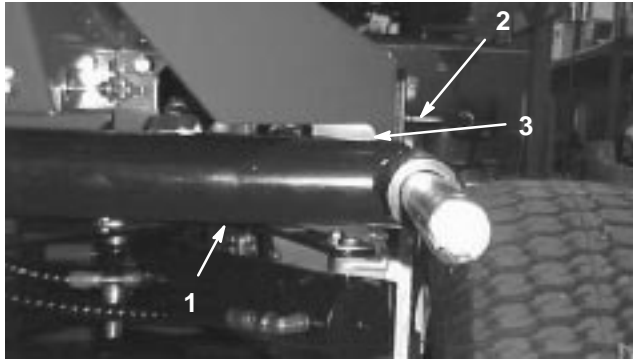
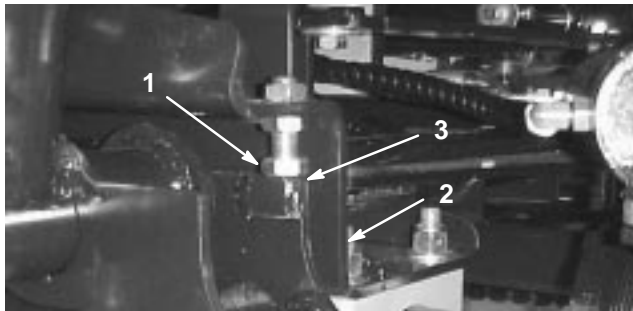
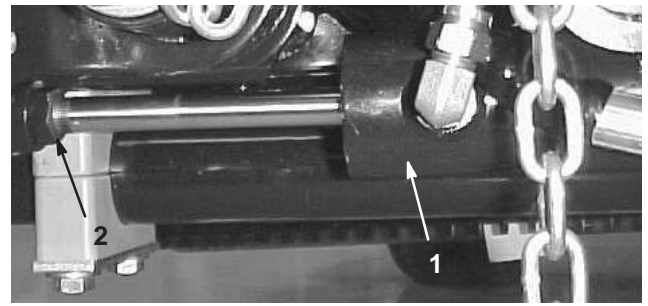

Figure 10
Figure 11
Figure 12
1. Start the engine, raise the decks, and check to make sure that the clearance between each lift arm and the floor plate bracket is .18–.32 in. (5–8 mm) (Fig. 10). If the clearance is not in this range, back off the stop bolts (Fig. 11) and adjust the cylinder to attain clearance. To adjust the cylinder, back off the jam nut on the cylinder (Fig. 12), remove the pin from the rod end, and rotate the clevis. Install the pin and check the clearance. Repeat the procedure if required. Tighten the clevis jam nut.
2. Check to make sure that the clearance between each lift arm and stop bolt is 0.005–0.040 in. (0.13–1.02 mm) (Fig. 11). If the clearance is not in this range, adjust the stop bolts to attain clearance.